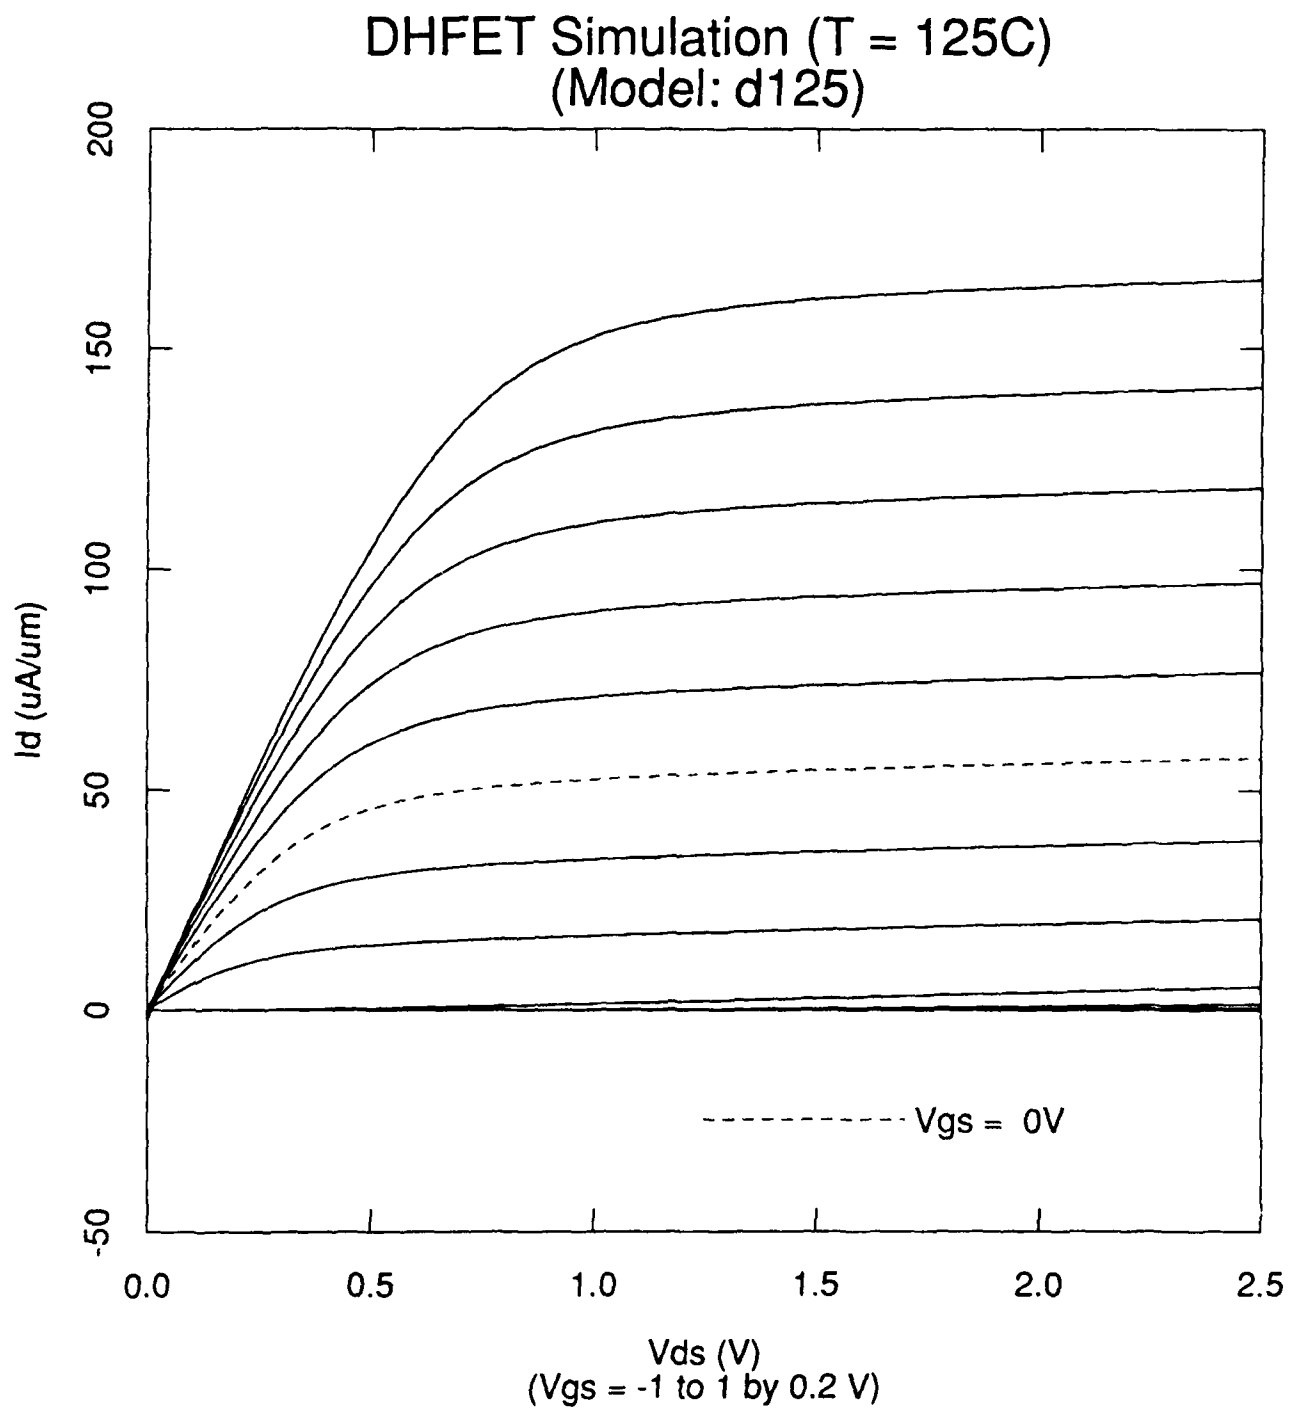

Figure 9. I_d vs. V_{ds} (V_{gs} stepped) for d125 DHFET Simulation at 125C.
- Figure 9. I_d vs. V_{ds} (V_{gs} stepped) for d125 DHFET Simulation at 125C.